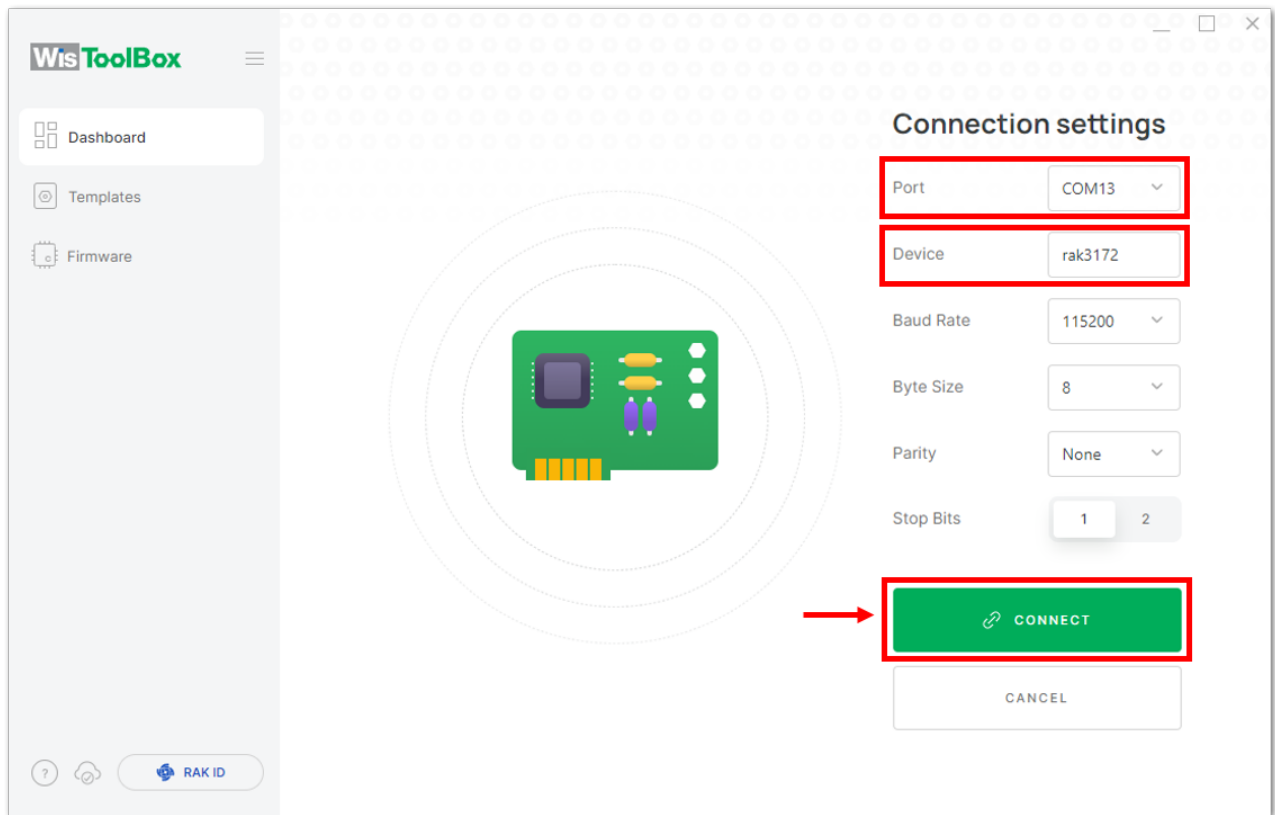

Figure 47: Setting up your device
3. Then select your target port where your **RAK3172** is connected. Once recognized, click **CONNECT** as shown in **Figure 47**.